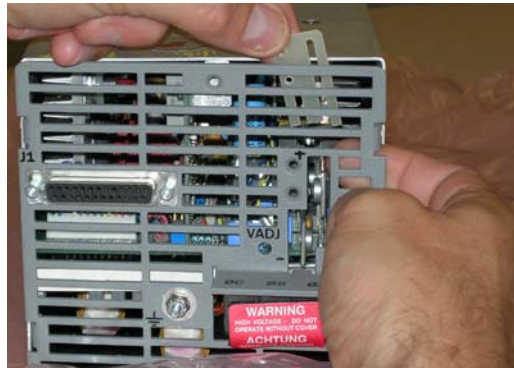

Figure 40 Sliding the Insulator Up
5. When both screws are removed, slide the insulator up and set it aside in a safe place. (Refer to Figure 40.)